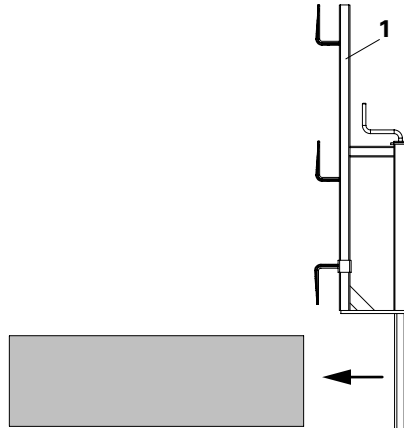

Fig. A2.02
2. Push the Guardrail Holder-2 (1) across the structure. (Fig. A2.02)